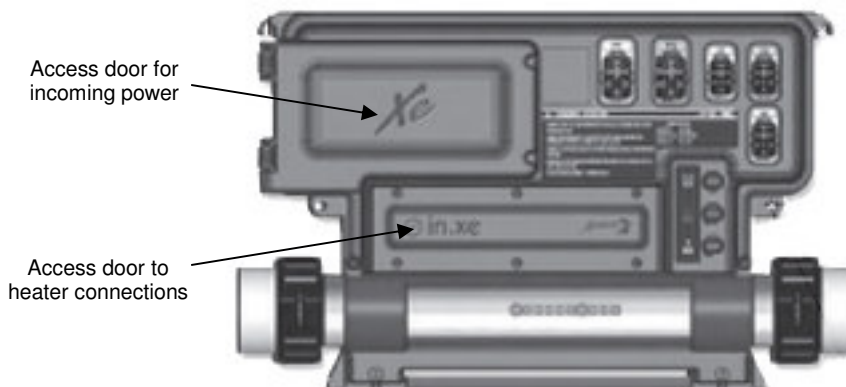

Figure 1
These instructions pertain only to those spas furnished with a factory installed Gecko in.xe spa pack (see figure 1). It is possible to convert these systems to 120 volt operation in order to meet your installation requirements. The following instructions must be carefully followed.
4. Locate the access door for the heater connections (figure 1) and remove all six screws.